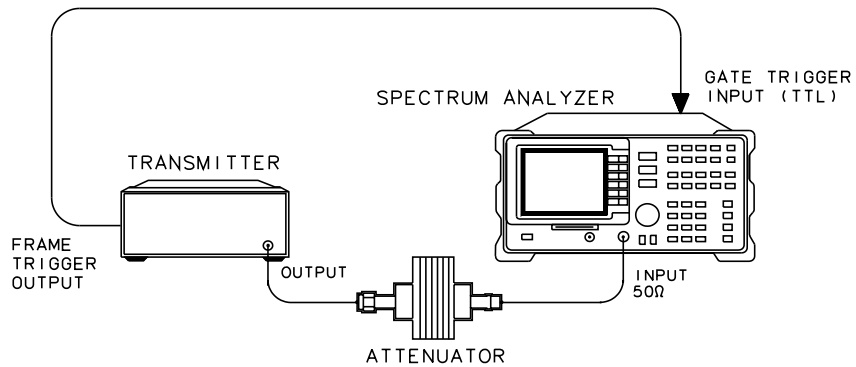

Figure 21 Test Setup Transmitter Spurious Emissions - TX Band/Outside Band
- 3 Press **TX BAND**. Refer to Figure 21 for the test setup. The spectrum analyzer scans the band indicated and lists in a table the spurious signals that are found.